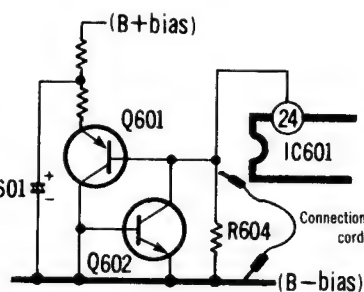

Fig. 17
<p>Fluorescent meter [TAPE [2]]</p> <p>Condition:</p> <ul style="list-style-type: none"> <li>Record mode</li> <li>Input level controls ... MAX</li> </ul> <p>Equipment:</p> <ul style="list-style-type: none"> <li>VTVM</li> <li>AF oscillator</li> <li>ATT</li> <li>Resistor (600Ω)</li> </ul>	<p>1. Test equipment connection is shown in fig. 17.</p> <p>2. Short R604 by connecting a connection cord across it, as shown in fig. 17, to stop oscillation of the astable multivibrator consisting of Q601 and Q602.</p> <p>3. Supply 1 kHz signal (-24 dB) to the LINE IN then press the record button.</p> <p>4. Adjust the ATT so that the output level at LINE OUT becomes 0.4V (The input level at this condition is termed the standard input level).</p> <p>5. Adjustment at "-20 dB":</p> <p>A. Adjust the ATT so that the input level is -20 dB below standard recording level.</p> <p>B. Adjust VR601 so that the -20 dB segment lights up in the -20 ± 0.8 dB range (L-CH only) (See fig. 18).</p> <p>6. Adjustment at "0 dB":</p> <p>A. Adjust the ATT so that the output level at LINE OUT becomes 0.4V (The input level at this condition is termed the standard input level).</p> <p>B. Adjust VR602 so that the +1 dB segment lights up in the 0 ± 0.2 dB range of the standard input level (See fig. 19).</p> <p>7. Repeat twice between steps (5) and (6) above.</p> <p>8. Adjust ATT and check that all segments lights up when an input signal level is increased to 10 dB higher than the standard input level (See fig. 20).</p>  <p>Fig. 17</p>  <p>Fig. 18</p>  <p>Fig. 19</p>  <p>Fig. 20</p>
on is shown in fig. 17.